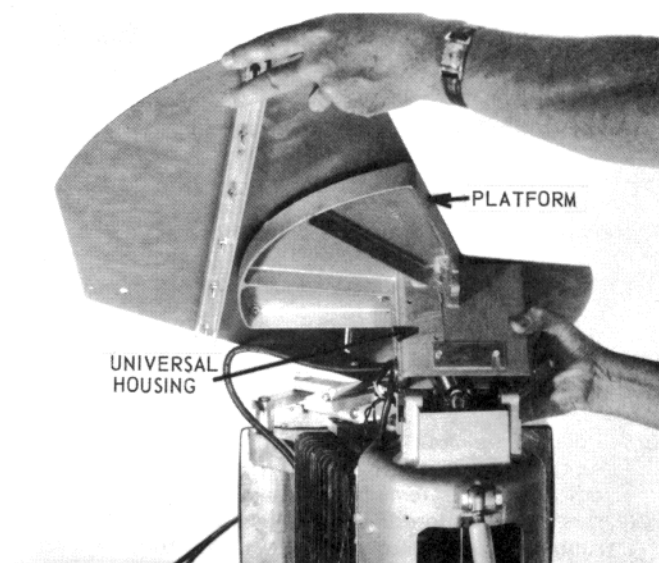

Figure 32 — Platform and Universal Housing
- 1.2.9 Lift and remove the platform and universal housing (see Figure 32).